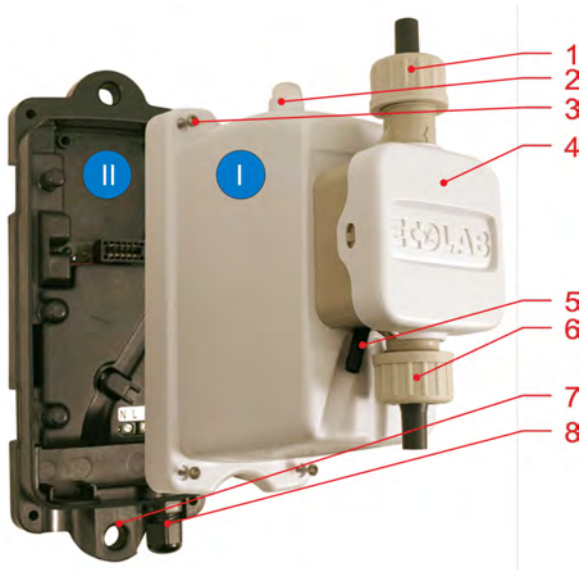

Fig. 1: Setup
1. ▶ Open the pump (see ↪ *Chapter 3 'Scope of supply' on page 20*) using an appropriate Phillips head screwdriver. For this, release each of the four locking screws (see ↪ *Chapter 4.2 'Setup' on page 22, Fig. 1, pos. 3*). The locking screws are protected against falling out and will remain in the pump module housing.
2. ➤ Lead connection cable through cable bushing (see ↪ Chapter 4.2 'Setup' on page 22, Fig. 1, pos. 8) and connect it (Fig. 1, pos. 19).